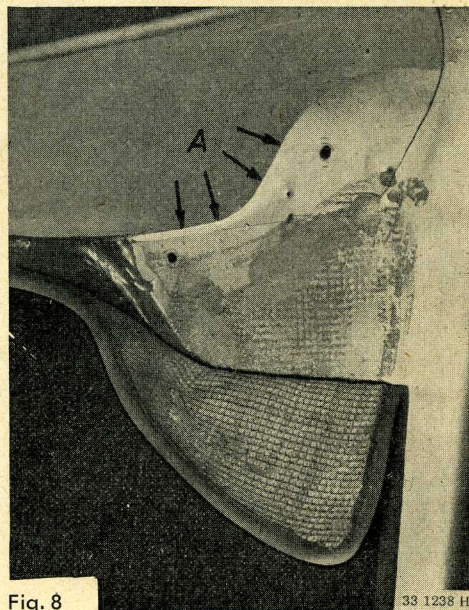

Fig. 8
- a) Inside the car, pull back the cloth covering of the body wall below the dashboard. Fig. 8.
- b) Cut out the enclosed template EVB No. 981 - 517 Bo. and fit the edge A to the part of the body designated A in Fig. 8.